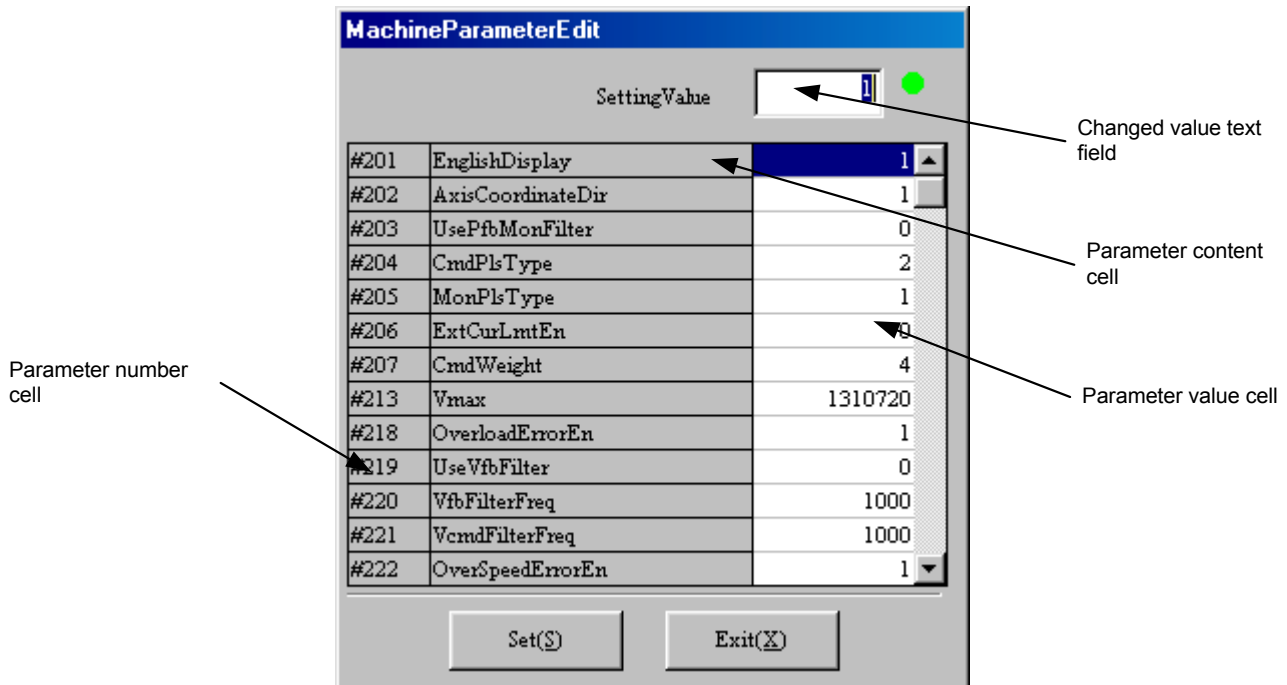

Figure 8.24 “MachineParameterEdit” dialog box
(1) Editing machine parameters
Click “*Machine Parameter Edit (M)*” in the “Parameter Manager” dialog box to display the “MachineParameterEdit” dialog box (see Figure 8.24). If the connection with the driver is established, the current values of the machine parameters are read and can be edited.